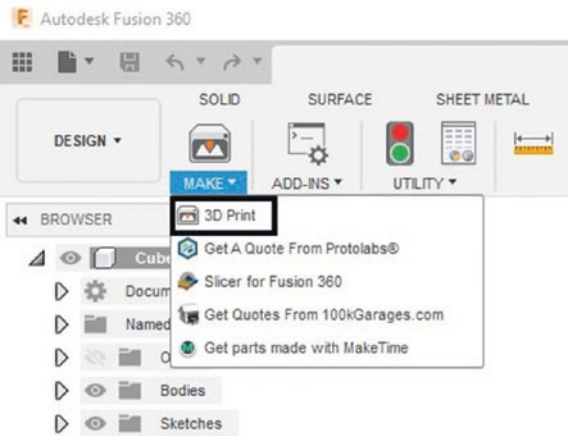

Figure 4-41. Select the 3D Print function
1. Go to the Tools ► MAKE drop-down menu and select “3D Print.” See Figure 4-41.